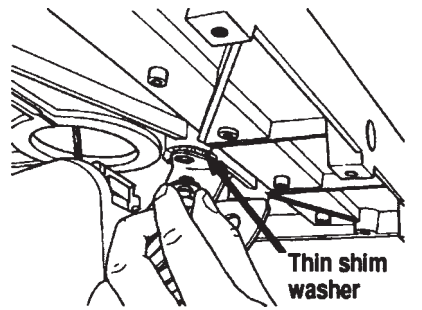

Fig. 15
13. Insert a thin shim washer (48) between the table (87) and each trunnion bracket.
14. Attach the table to the Bandsaw with bolts (35) and thick washers (34), as shown in Fig. 15. Finger tighten only.